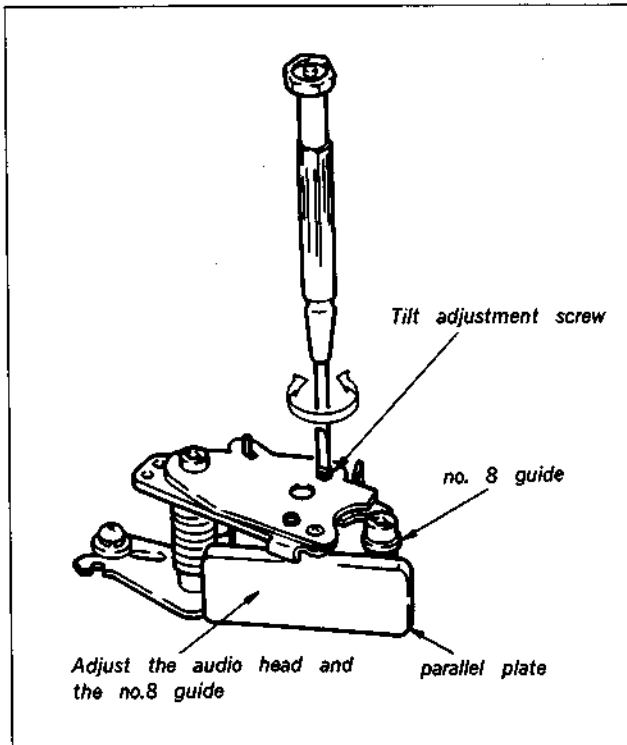

Fig. 4-9.
- 1) Set the parallel plate (SL-0657 in the list of fixtures and tools) up against the unit as shown in Fig. 4-9. and turn the tilt adjustment screw to adjust the audio head vertically.